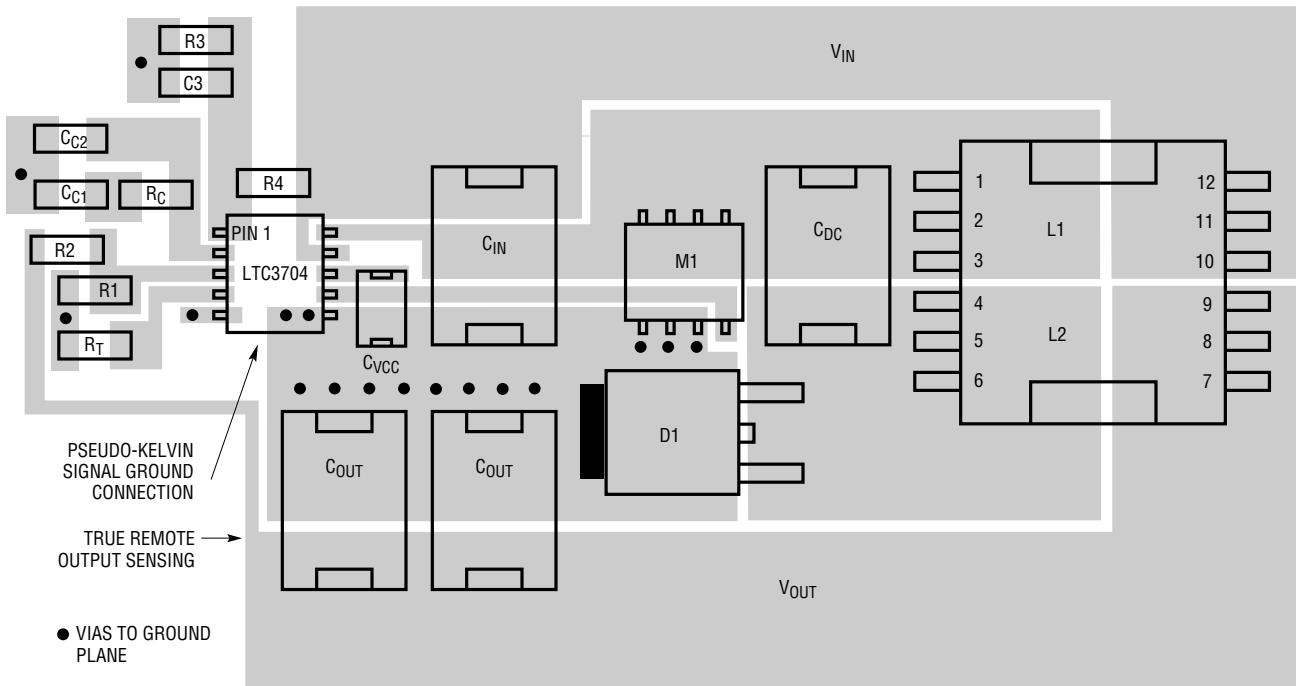

Figure 22. LTC3704 Positive-to-Negative Converter Suggested Layout
6. Place the small-signal components away from high frequency switching nodes. In the layout shown in Figure 22, all of the small-signal components have been placed on one side of the IC and all of the power components have been placed on the other. This also allows the use of a pseudo-Kelvin connection for the signal ground, where high  $di/dt$  gate driver currents flow out of the IC ground pin in one direction (to the bottom plate of the  $INTV_{CC}$  decoupling capacitor) and small-signal currents flow in the other direction.